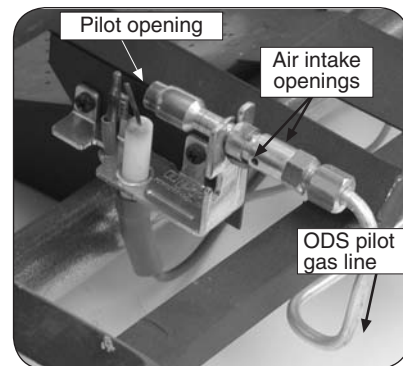

Fig. 23-1
1. Turn the vent-free gas log set to the off position and allow it to cool. Inspect the ODS pilot area (see Fig. 23-1) for any visual contamination or debris (usually lint, hair, spider webs, or small insects). Lightly brush off all external surfaces while vacuuming loosened debris from the ODS pilot opening. **Be careful not to brush any foreign material into the ODS pilot opening.**
5. Relight the ODS pilot and inspect it to be sure it is burning as shown in the instructions. If not, extinguish the ODS pilot and **turn off the gas supply to the gas log set.** Using an adjustable or a 1/4" wrench, disconnect the ODS pilot gas line (see Fig. 23-1) from the valve.